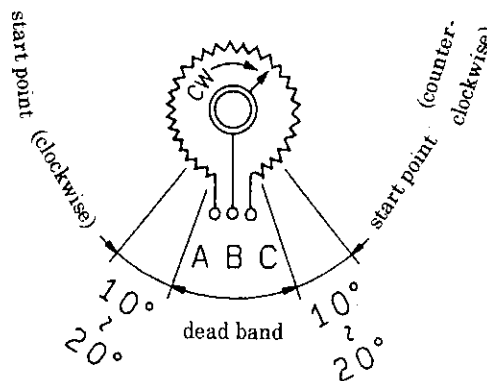

Fig.3 Potentionmeter
- ③ Loosen potentiometer set screws applying power and ensuring output current, then rotate the potentiometer  $10^{\circ} \sim 20^{\circ}$  away from dead band (see Fig.3) to decide the start point. Settle the potentiometer with the screws again(Refer " Cautions " ! )
- ④ Adjust zero · span with variable resistor.